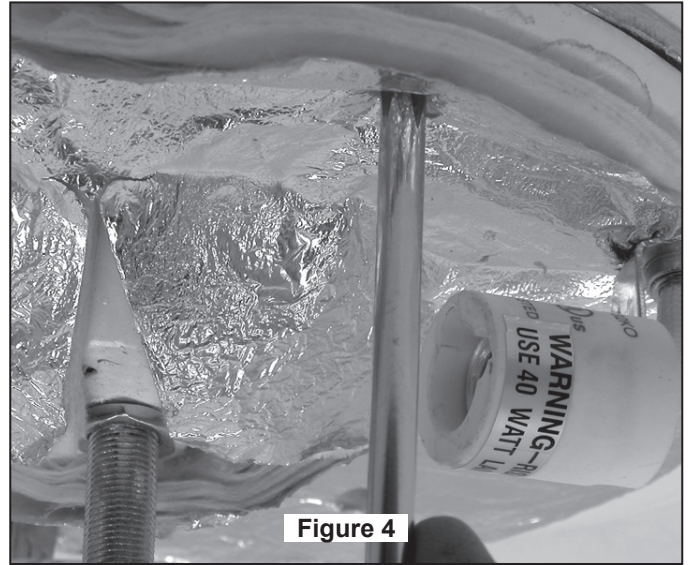

Figure 4
4. Securely attach Downlight Socket Plate Assembly to the Adapter Plate by tightening four screws with spring washers (5/32-32 x 8 mm) provided with the fan. (Figure 4)
Be sure to line up the curved slotted holes located on both Lower Housing Support Plates. (Figures 4 & 5) Purpose of these holes are for the convenience of removing and re-installing the blades without dis-assembling the Adapter Plate and Downlight Socket Plate Assembly.